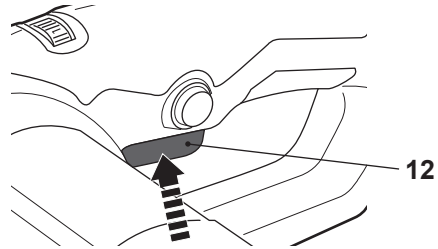

Fig. 18
- > Switch the product on by squeezing the on/off switch (12) (Fig. 18).
- > Switch the product off by releasing the on/off switch (12).